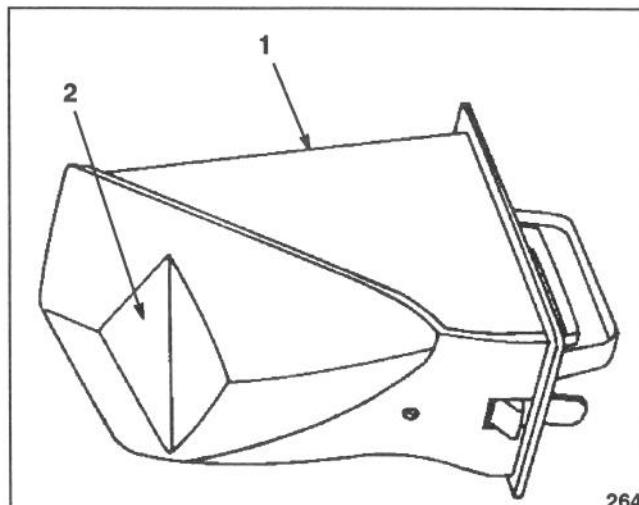

Figure 7
- C. A special plug which locks into the mower's discharge tunnel (a fifth kicker is on the plug) (Fig. 7)
It is possible to mow without using the plug by closing the discharge tunnel door. However, your lawn appearance will be much more satisfactory if you use the plug as it has an additional kicker (Fig. 7) that helps drive the clippings down into the grass.